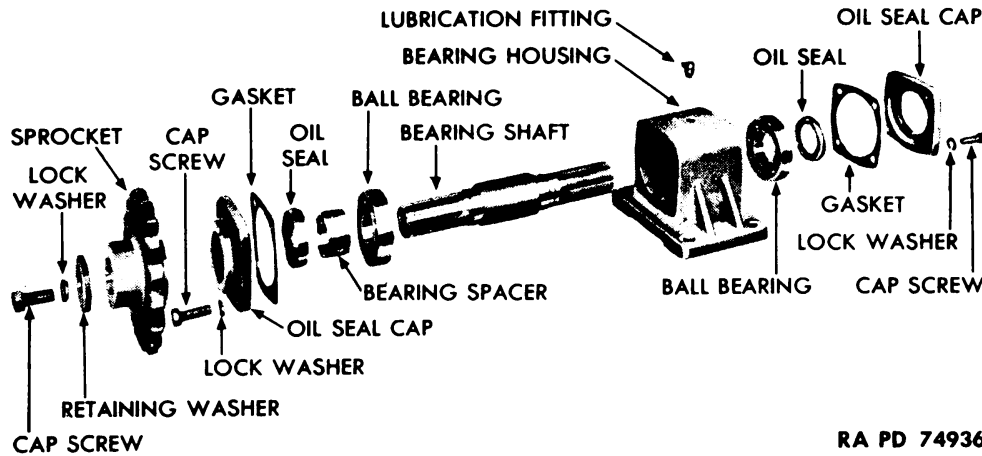

Figure 48 – Double Bearing and Shaft – Disassembled
(1) **REMOVE SPROCKET** (fig. 48). Remove cap screw, lock washer, and retaining washer from end of bearing shaft, and remove sprocket.
(2) **REMOVE SHAFT** (fig. 48). Remove four cap screws and lock washers which hold each of two oil seal caps to bearing housing. Remove the two oil seal caps and gaskets. Press shaft out of the housing, carrying one ball bearing with it and leaving opposite bearing in housing.
(3) **REMOVE BEARING** (fig. 48). Remove bearing spacer from end of shaft, and pull off ball bearing. Drive remaining ball bearing out of housing.
(1) **INSTALL BEARINGS** (fig. 48). Press one ball bearing on bearing shaft, then install shaft and bearing in bearing housing, and press ball bearing into position in housing. Press remaining ball bearing on opposite end of shaft and into bearing housing. Install bearing spacer on shaft, next to ball bearing just installed. Install a new oil seal in each oil seal cap.
(2) **INSTALL END COVERS** (fig. 48). Install new end cover gasket between each cover and bearing housing, and secure each cover to housing with four cap screws and lock washers.
(3) **INSTALL SPROCKET** (fig. 48). Install sprocket on shaft, then install retaining washer, securing it to end of shaft with a cap screw and lock washer.